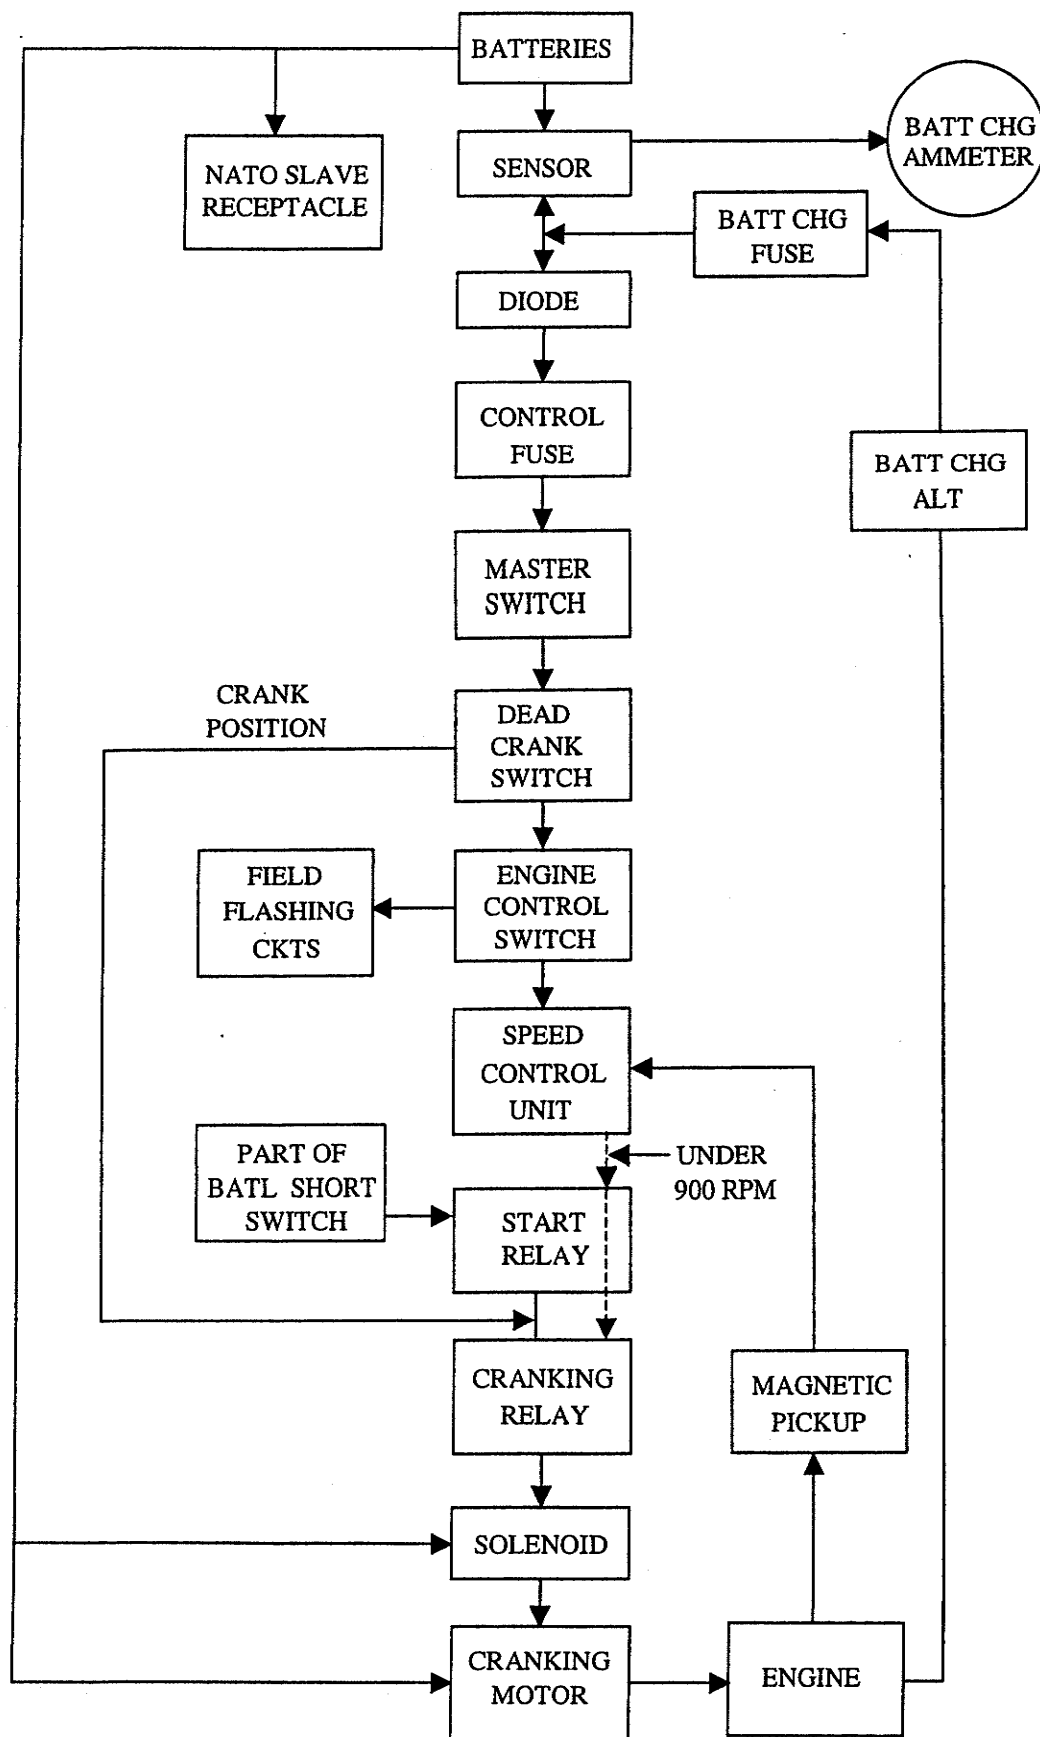

FIGURE 1-29. ENGINE STARTING SYSTEM FLOW DIAGRAM
- 1.16.13.1.1 Engine starting is accomplished primarily with two 12 volt batteries, connected in series to provide 24 VDC power, and a starter (Figure 1-29). The starter includes a cranking motor and a solenoid. To permit engine starting, the DC CONTROL POWER circuit breaker must be pushed in, the DEAD CRANK switch must be in the NORMAL position, and the BATTLE SHORT switch must be in the OFF position. In addition, any ENGINE SHUTDOWN fault previously registered on the CIM display screen must have been corrected by activating the FAULT RESET switch.